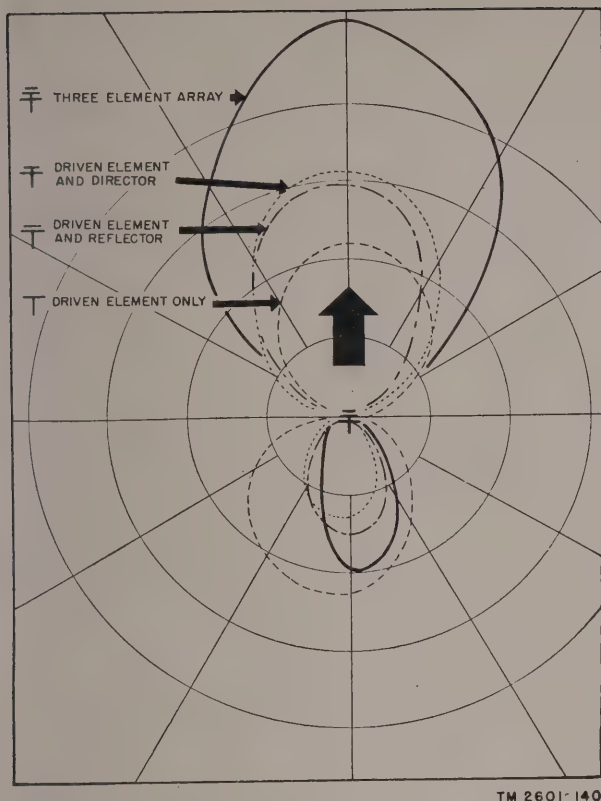

Figure 151. Radiation patterns possible with Antenna AS-20(*)/TRC-1.
d. RADIATION PATTERNS. The various field strength patterns produced by radiation from Antenna AS-20(*)/TRC-1 are shown in figure 151. Patterns are indicated for use of the driven element alone; the driven element and a director; and the driven element, a director, and a reflector. Best results (that is, most gain) are, of course, obtained by using all three elements. In this case, the major portion of radiated power, or signal reception, is confined within an arc of 55° in the forward direction. If, because of damage or insufficient elements, it becomes necessary to erect a two-element array, note that greater gain at the standard quarter-wavelength spacing is obtained by using a reflector rather than a director. The slightly un-
symmetrical field pattern shown in figure 151 is due to unbalance caused by the construction of the dipole insulator and mast assembly.